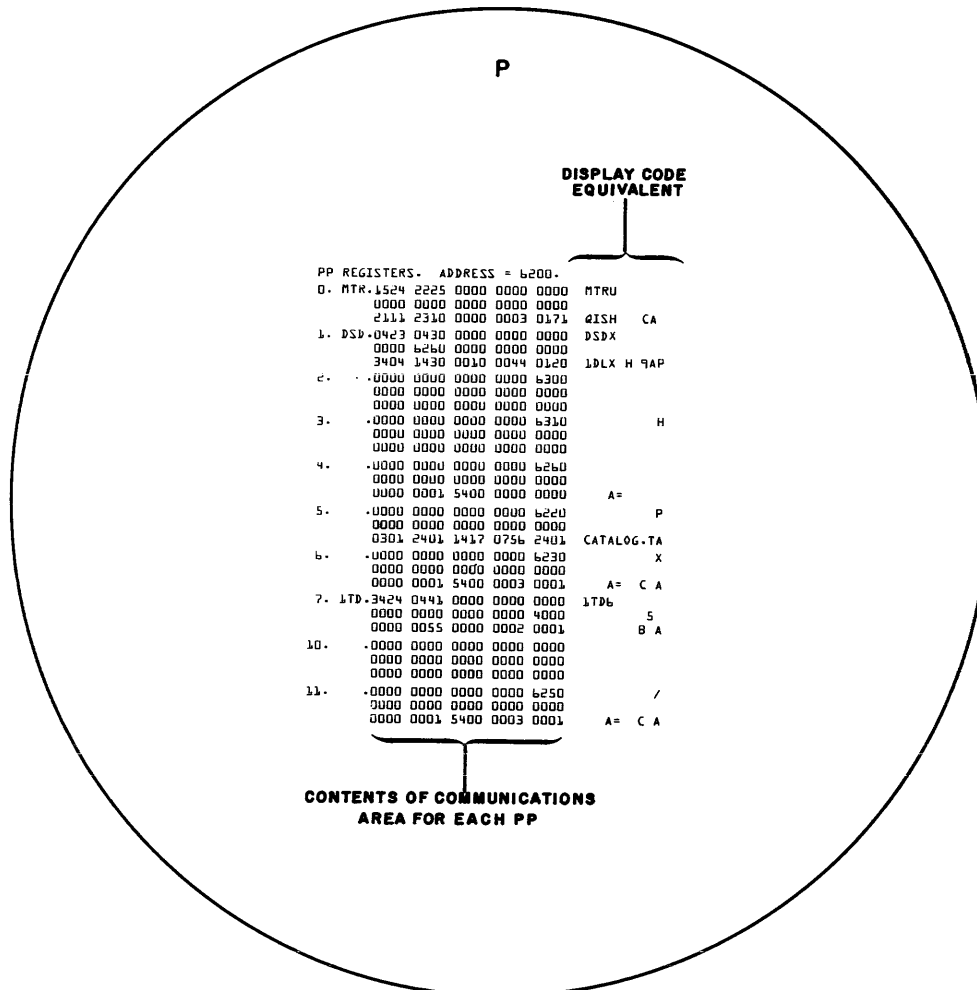

Figure 4-9. PP Communications Area (P) Display
Figure 4-9 illustrates the PP communications area (P) display.